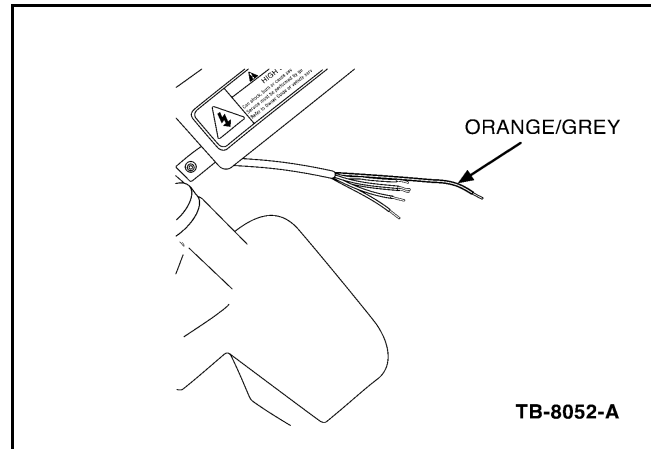

Figure 11 - Article 04-24-9
1. Strip back the orange tape approximately 8" (20 cm) from the remaining 9-pin DC connector harness (previously cut in Step 3 of Battery Charger Removal). Stagger cut the wires so the orange/grey wire extends approximately 2" (5 cm) further from main harness (Figure 11).